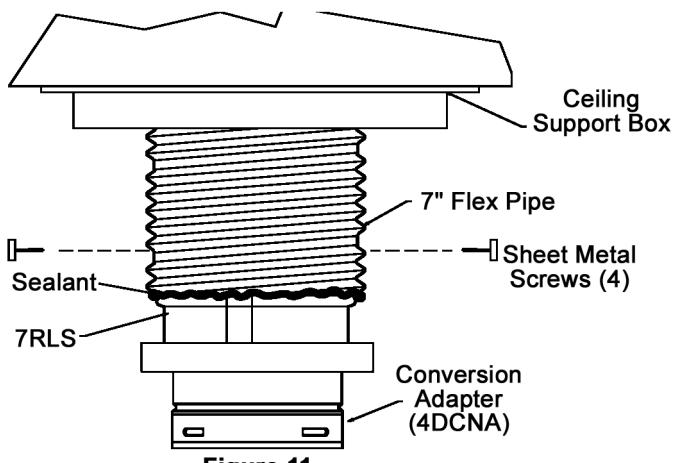

Figure 11
22. Insert the crimped end (unflanged) of the 7RLS into the bottom end of the 7" flex up to the point of the flared-out bead around the circumference of the 7RLS. Fasten it to the flex pipe with sheet metal screws. Put a bead of sealant around the seam of the 7RLS and the 7" flex. See Figure 11.